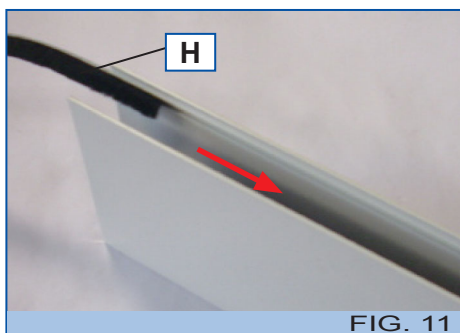

FIG. 11
Position the conveyor of the guide as in figure 11. Make sure you insert the tab (I) of the box plug in the inner part of the conveyor.